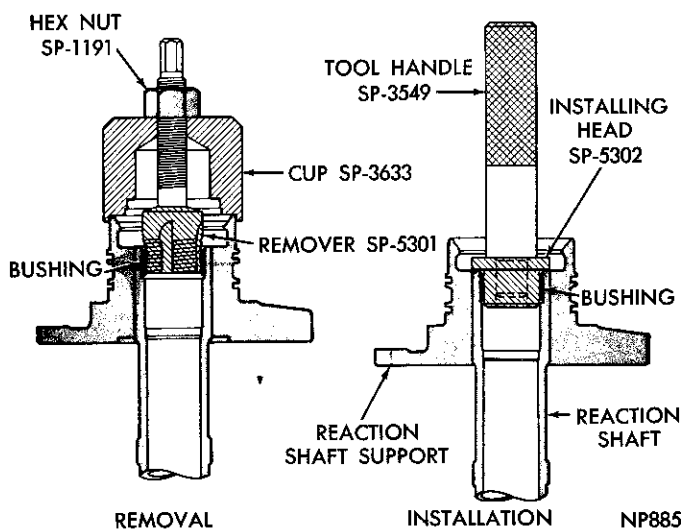

Fig. 52—Replacing Reaction Shaft Bushing (A-727)
(2) With cup held firmly against the reaction shaft, thread remover into bushing as far as possible by hand (Fig. 52).
(3) Using a wrench, screw remover into bushing 3 to 4 additional turns to firmly engage threads in the
(4) Turn hex nut down against the cup to pull bushing from the reaction shaft. Thoroughly clean reaction shaft to remove chips made by the remover threads.
(5) Lightly grip bushing in a vise or with pliers and back tool out of the bushing. Be careful not to damage threads on the bushing remover.
(6) Slide a new bushing (chamfered end first) on installing head Tool SP-5302, and start them in bore of the reaction shaft.
(7) Support reaction shaft upright on a clean smooth surface and install handle Tool SP-3549 in the installing head (Fig. 52). Drive bushing into the shaft until tool bottoms.
(8) Thoroughly clean reaction shaft support assembly before installation.